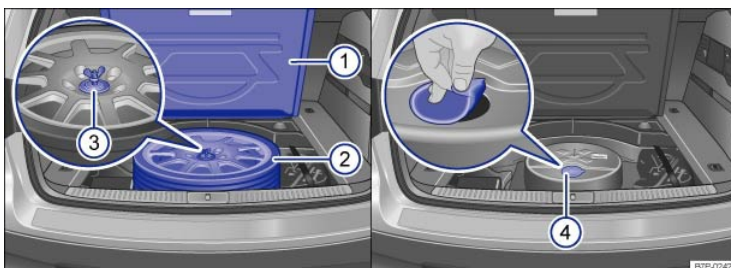
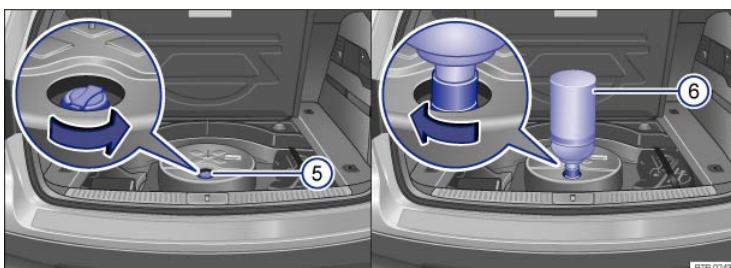

Fig. 179 Luggage compartment with collapsible spare tire and AdBlue tank.
Fig. 180 AdBlue tank with filler neck cap and refill container.
Key to ⇒ Fig. 179 and ⇒ Fig. 180 :
- Fold up the luggage compartment floor panel ⇒ Fig. 179① and hook it open or, if you have a reversible luggage compartment floor panel, take this out ⇒ Luggage compartment.
- Take out the collapsible spare tire ②- Unscrew the fastening screw ③ with washer counterclockwise and take out the collapsible spare tire.
- Pull off the plug ④ in the spare tire well.
- Unscrew the tank filler neck cap ⇒ Fig. 180⑤ counterclockwise and remove.
- Screw in the fuel filler neck cap ⇒ Fig. 180⑤ clockwise until the cap locks into place.
- Put the plug ⇒ Fig. 179④ back in the spare wheel recess and make certain it is properly placed and secure.
- Put the collapsible spare tire ② back in the spare wheel recess and secure it with the fastening screw ③ and washer.
- Unhook the luggage compartment floor panel ① and fold down or, if you have a reversible luggage compartment floor panel, put this back in ⇒ Luggage compartment.